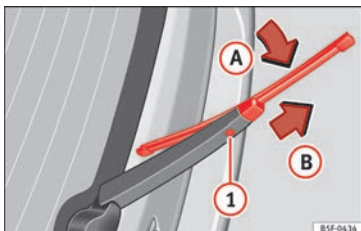

Fig. 80 Changing the rear wiper blade
- Turn the blade slightly » Fig. 80 (arrow A).
- Hold down the release button ❶ while gently pulling the blade in the direction of arrow B.
- Insert a new blade of the **same length and type** in the rear wiper arm in the opposite direction to the arrow B and hook into place button ❶.